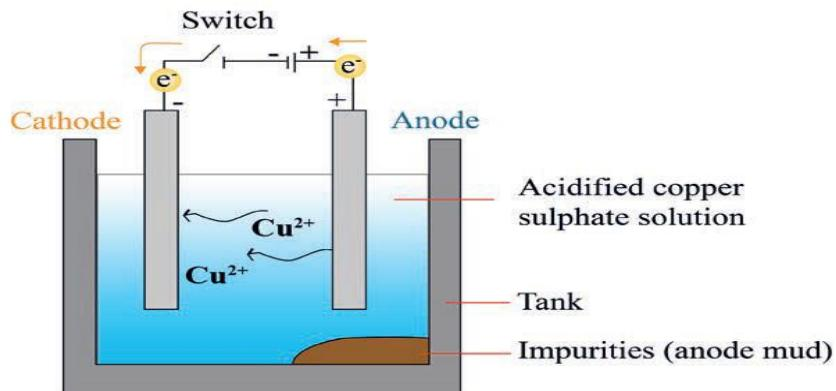

Figure 2.5: Purification of Copper by Electrolysis
- The insoluble impurities settle down at the bottom of the anode and are known as anode mud whereas the soluble impurities go into the solution(**Figure 2.5**).